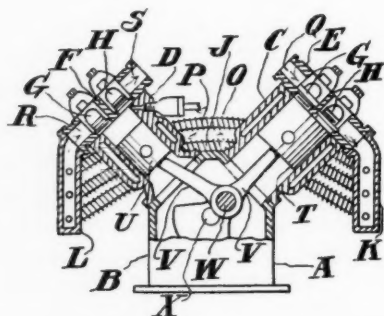
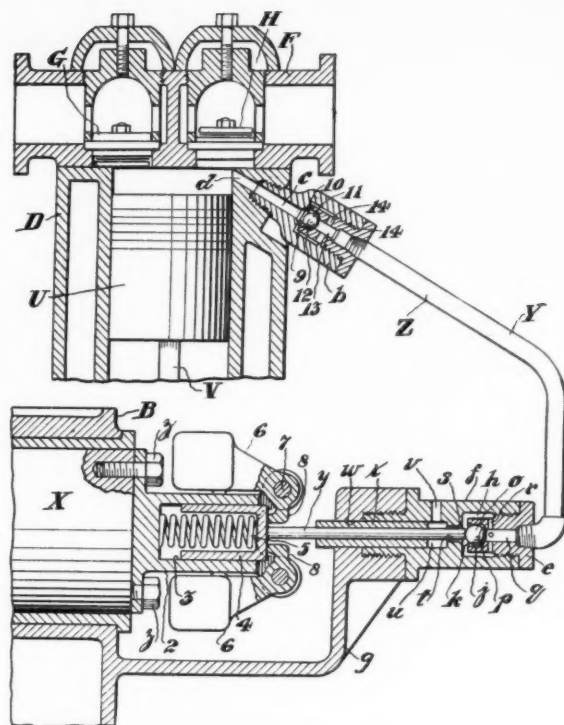

Fig. 3—Multiple cylinder compressor to which an unloader is applied for minimizing the load on the prime mover during starting and stopping periods
Fig. 4—Spring pressure is employed to overcome force of weights to keep valve open to atmosphere
**T**O MINIMIZE the load on the prime mover of a compressor during the starting and stopping periods of the compressor an unloader has been devised by John LeValley. The type of unit for which this unloader is designed is shown in Fig. 3, comprising a crankcase *B* on which is mounted low and high pressure cylinders *C* and *D*, respectively. Fig. 4 is a longitudinal section arranged diagrammatically. Ingersoll-Rand Co., Jersey City, N. J. has been assigned the patent which is designated No. 1,899,002.
The medium to be compressed enters head *E*, Fig. 3, through inlet *Q*, thence flows through inlet valve *G* into cylinder *C*. There it is compressed by piston *T* and expelled through discharge valve *H* into intercooler *J*. Subsequently the fluid passes into cylinder *D* where it is compressed to a higher value by piston *U*, being expelled through the discharge valve *H* in head *F* and through outlet opening *S* to its destination.